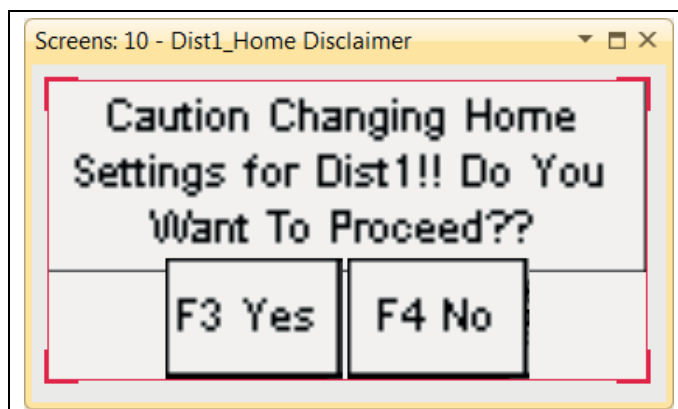

Figure 5Y
12. Press **F3 Teach Home** and the screen will appear as in Figure 5Y.